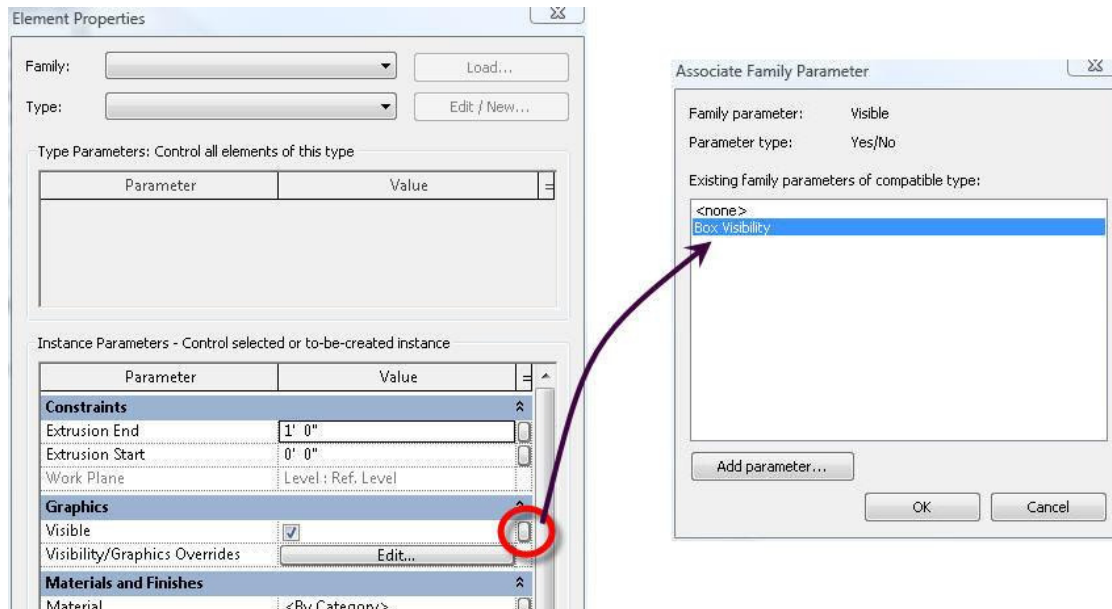

Figure 9. Object properties in families can be linked to parameters of the appropriate type.
7. Set the object’s properties. To do this, do not select the method Properties tool on the ribbon. Technically the object doesn’t exist yet, so selecting the Element Properties tool while in sketch mode will take you to the properties of whatever sketch linework you have selected. Instead, select the method-specific Properties button on the ribbon. Specific properties that you are interested in include the depth (in the case of an extrusion or blend), the material of the object, visibility and sub-category (if necessary). You can also set the properties after the object has been created and you have exited sketch mode. It is also important to note that you can link properties to parameters. For example, if you have created a Yes/No parameter, that parameter can be used to control the Visibility property of the object (see Figure 9).